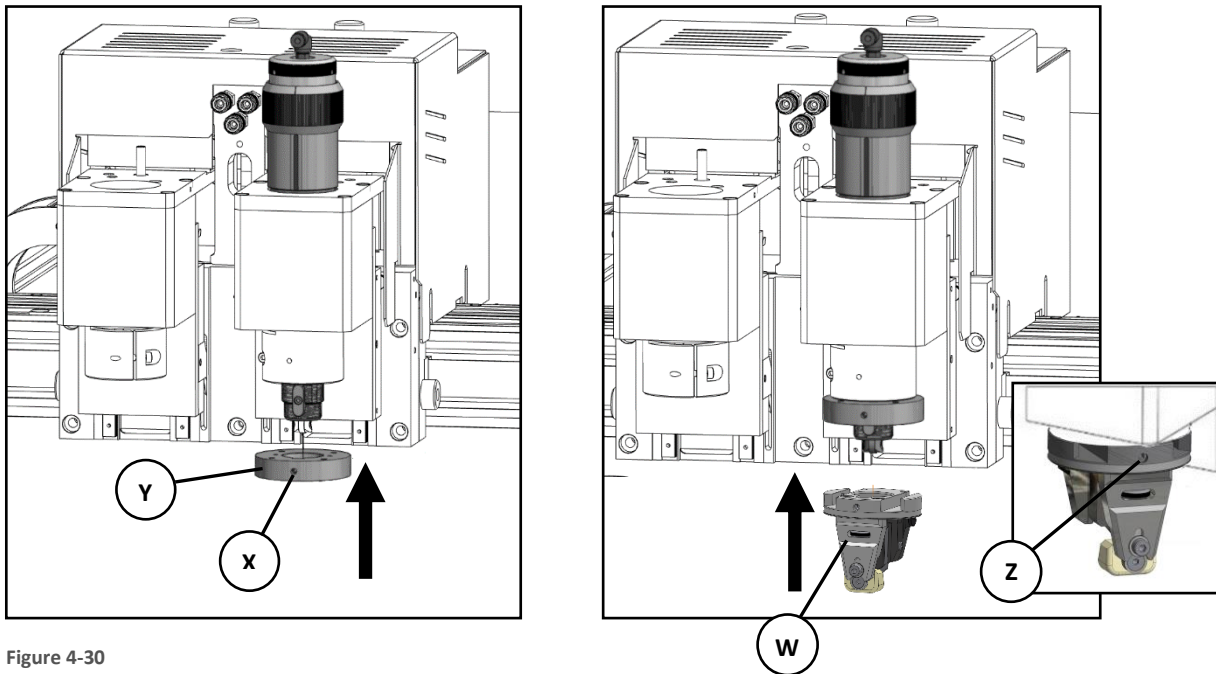

Figure 4-30
When mounting a head (W) on the VersaTool, insert it under magnet holder and when it adheres to the flange, tighten the screw (Z) (Figure 4-30).
- Loosen the screw (Z) (Figure 4-30).
- hold the release tool/fork (1) by its handle and insert it into the slot located in the top part of the head. Holding the tool with one hand support the release fork tool with the other, insert into the head slot (2) and give it a slight knock to free the head.
- This will detach the interchangeable head from the retaining magnets, and it will remain attached to the magnets of the release tool (3)